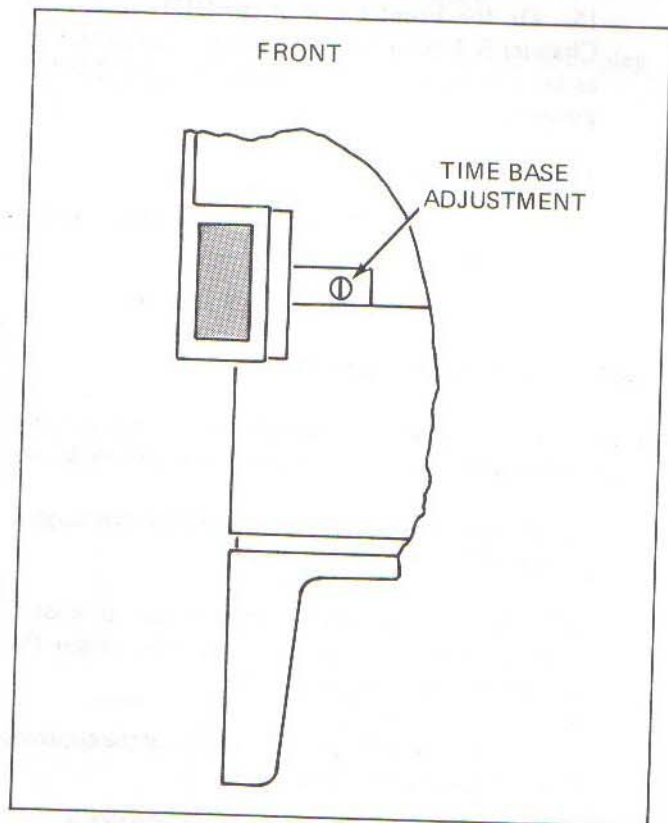

Figure 4-10. Time Base Adjustment Location
10. Use the JFD 258 tuning tool to adjust the time base adjustment so that the UUT displayed value is within 9999.9449 to 0000.0551*. Ideally, the display will be all zeros, indicating an exact alignment. Figure 4-10 shows the location of the time base adjustment hole in the bottom case cover off the UUT.